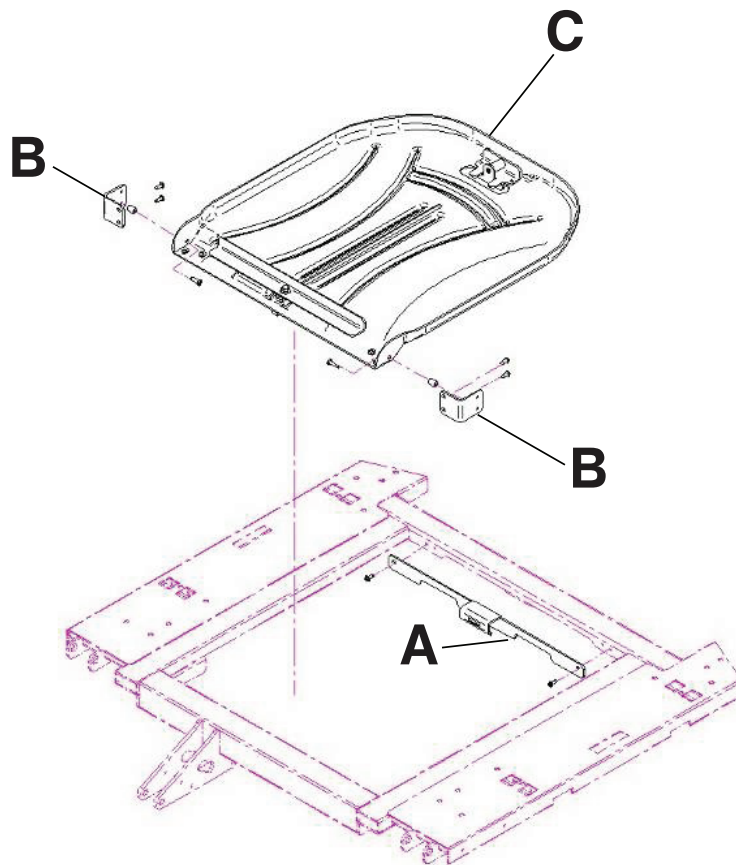

Figure 130: X-ray cassette holder
3. Turn the battery switch to the OFF (O) position.
5. Using a #2 Phillips screwdriver, install two screws to secure the fastener (A) to the top of the fowler frame (Figure 130 on page 109).
6. Using a #2 Phillips screwdriver, install four screws to secure the two cassette holder pivot brackets (B) into the lower fowler section (Figure 130 on page 109).
7. Using a #2 Phillips screwdriver, install two screws and two spacers to secure the X-ray cassette holder (C) into the cassette holder pivot brackets (B) (Figure 130 on page 109).